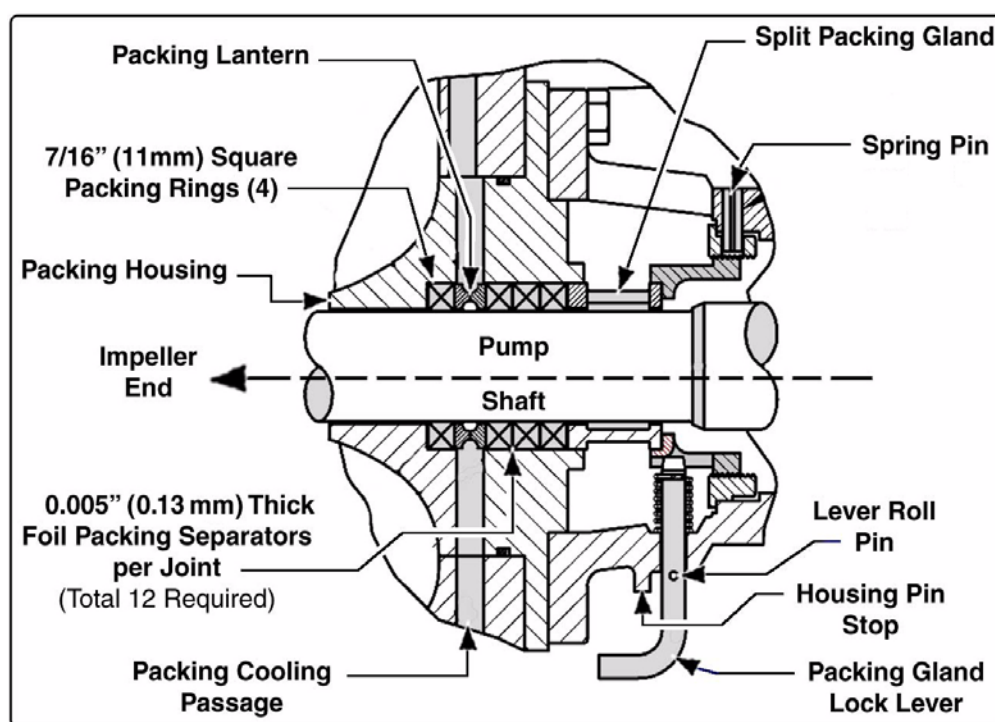

Figure 8-1: Pump Packing Seal Overview
When the packing adjustment has reached its limit, a single ring of packing can be added. However, it is usually more efficient to repack the pump. (See Figure 8-1: "Pump Packing Seal Overview.") Also see Figure 8-2: "Packing / Mechanical Seal Assembly Overview" on page 132.
The three rings adjacent to the packing gland can be replaced without disassembling the pump. The ring in front of the lantern does not need to be replaced. (See Figure 8-1: "Pump Packing Seal Overview.")
1. Loosen the slotted packing nut. (See Figure 8-1: “Pump Packing Seal Overview” on page 131.)